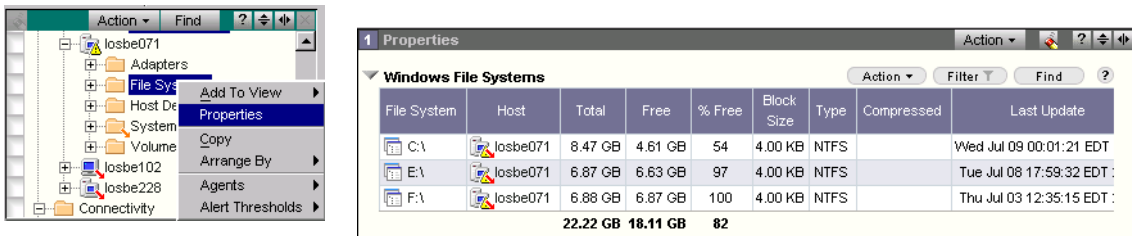

Figure 12-1 Viewing Properties of File Systems
2. For more information, right-click **File Systems**, and then select **Properties**. A table appears in the target panel (as shown in Figure 12-1).